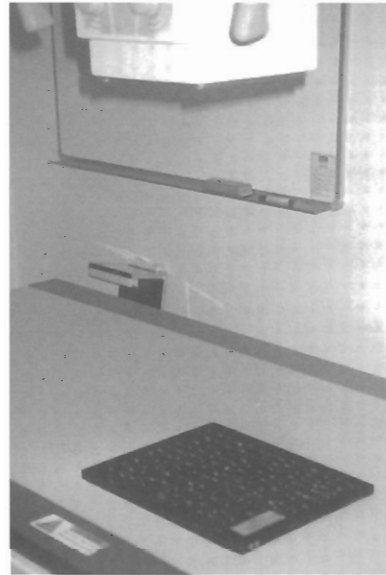

Fig 2–3. Film/screen contact test, using paper clips as a test tool
- Test tool (box of paper clips or sheet of perforated zinc or fine wire mesh, large enough to cover a 35 × 43 cm film, with a square hole, about 10 cm from one edge, approximately 2 to 2 cm square). (see Fig 2–3 and Appendix A, page 134).